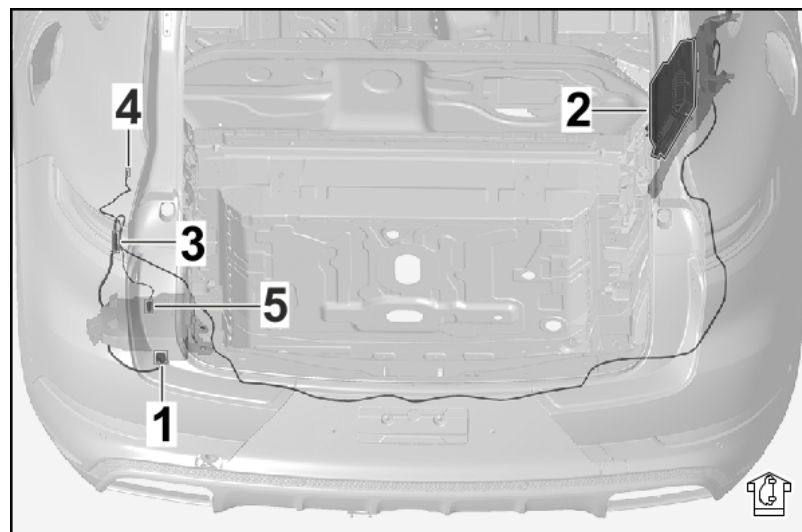
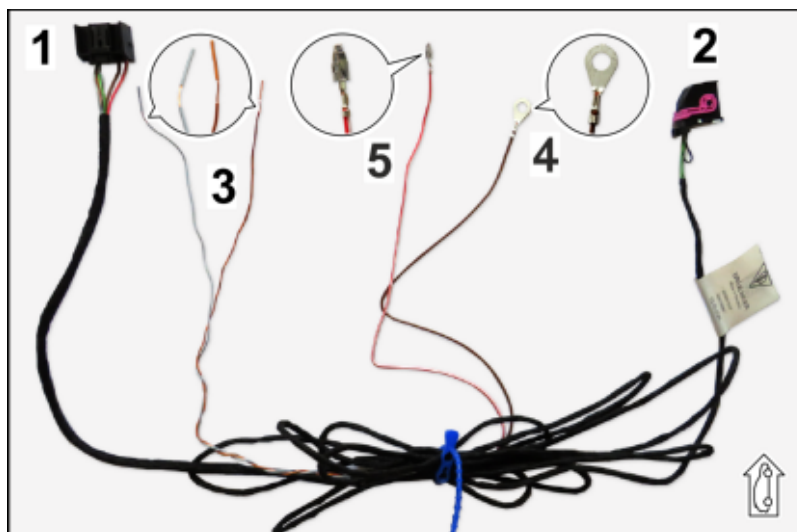

Figure 9
Figure 10
- Course of wire harness for engine noise (interior sound) in luggage compartment ⇒ *Figure 9*
2.4.1 Lay branch for amplifier connection with connector (18-pin⇒ *Figure 10 -2-*) from the engine noise control unit along existing lines on the rear end plate to the amplifier (9VL/9VJ). ⇒ *Figure 9*